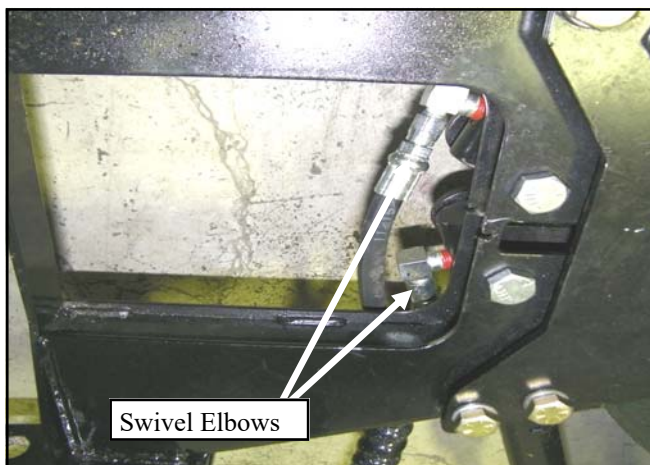

Fig. 9.4 Angle Cylinders fixed End Hose
- 9.4 Attach and tighten the free end of each of the 40" long hydraulic hoses to the swivel elbow in its respective angle cylinder. The hydraulic hose with the blue mark coming out of port C1 on pump manifold will be attached to the left side cylinder (driver's side). See Fig. 9.4.